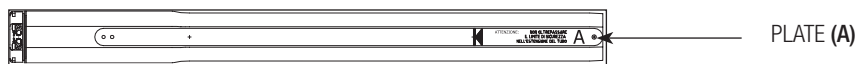

Fig. 7
- 3) WHEN THE ELECTRO-ROLLER IS BEING ASSEMBLED, THE PLATES (Fig. 7 ref. A), INSTALLED ABOVE THE MOTOR AND CAP SLEEVE (Fig. 1 ref. 1 - 2) MUST SLIDE OUTSIDE THE FIXED ROLLER.